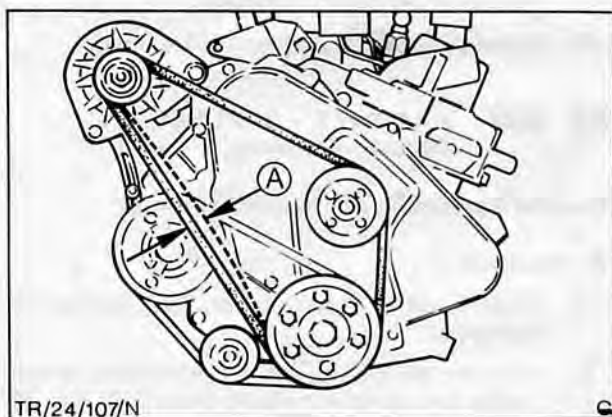

Fig. 39. Fan belt adjustment point 'A'
9. Refit fan belt and adjust as described in Operation No. 24 205, Fig. 39.